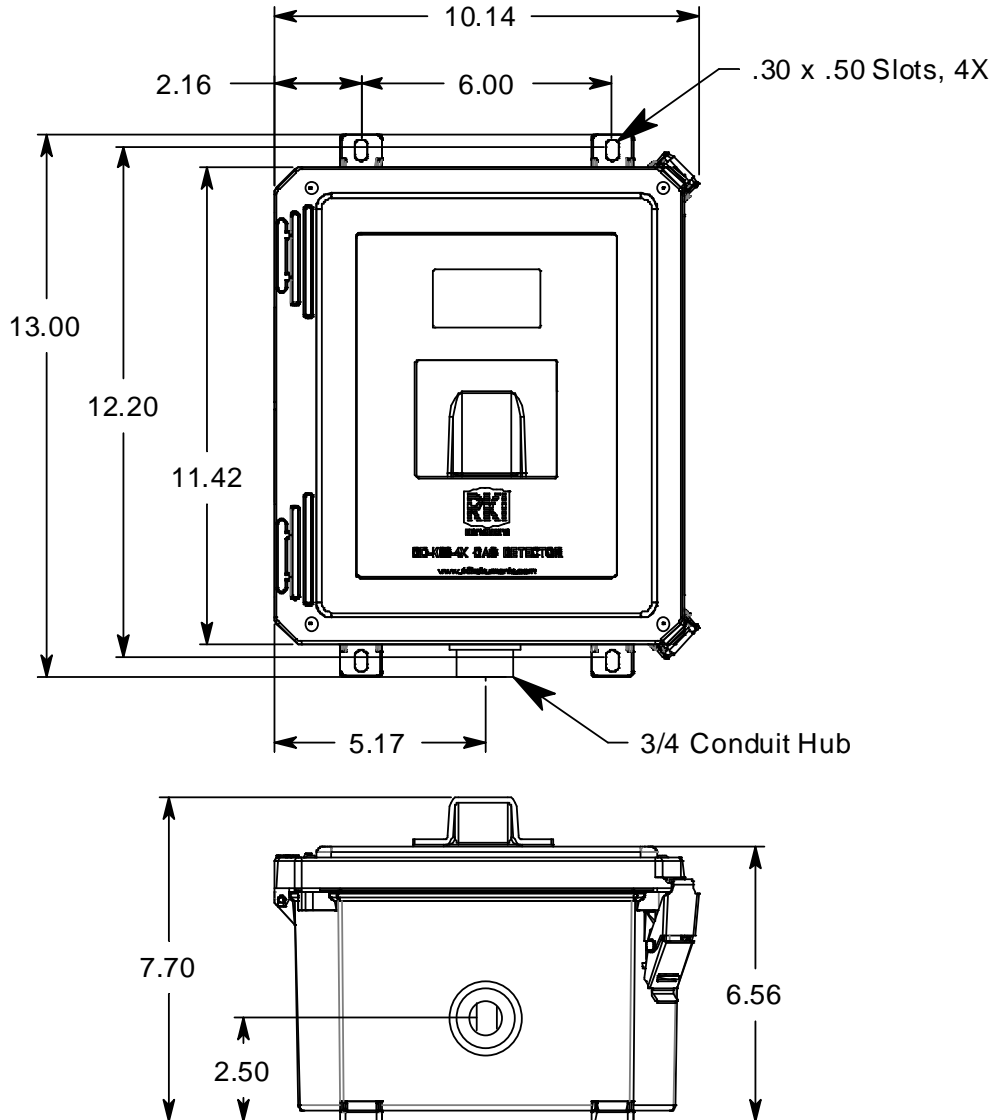

Figure 2: Outline & Mounting Dimensions
- Use four 1/4" screws through the mounting feet to mount the GD-K88-4X to a vertical surface. See Figure 2 for the mounting dimensions.